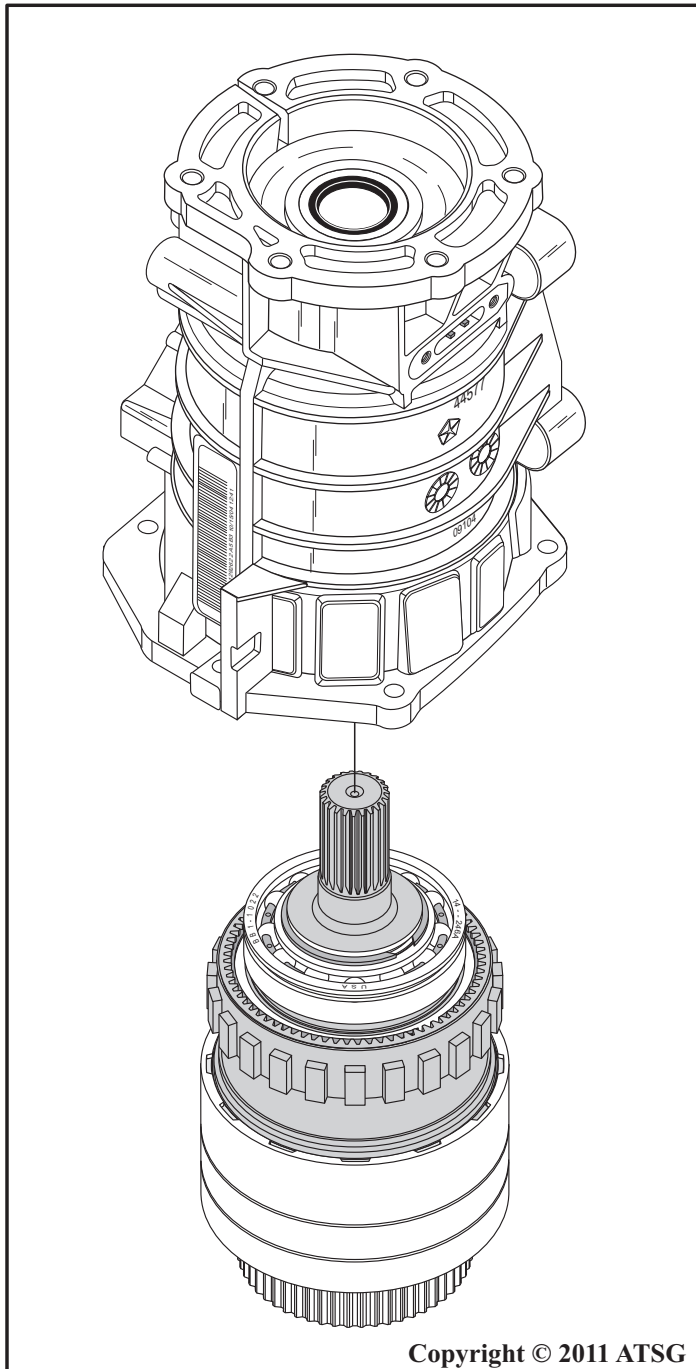

Figure 152
14. Remove the overdrive housing from overdrive geartrain, as shown in Figure 152.